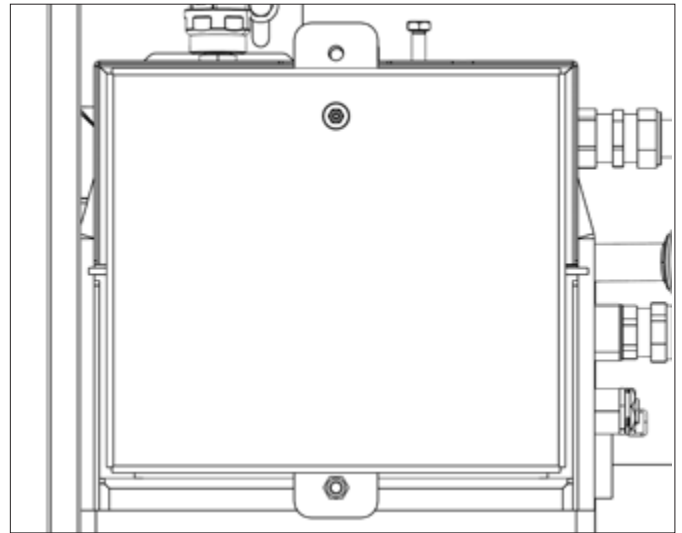

**Figure 4-3:** Expansion vessel, Expansion vessel bracket and hose connection - System model only
10. Remove the expansion vessel from its hanger on the top right side of the boiler and unscrew the expansion vessel hose from the top of the vessel. (See Figure 4-3).
13. Re-fit the return pipe to top right hand connection on boiler shell. Pass return pipe from system through hole in back panel (either at top or bottom of panel, as required) and connect to boiler return pipe. (See Figure 4-3)
28. System model only - Re-fit expansion vessel onto bracket inside right hand side panel and reconnect expansion vessel hose to connection to the top of the expansion vessel. Ensure rubber sealing washer is fitted. (Refer to Figure 4-3).